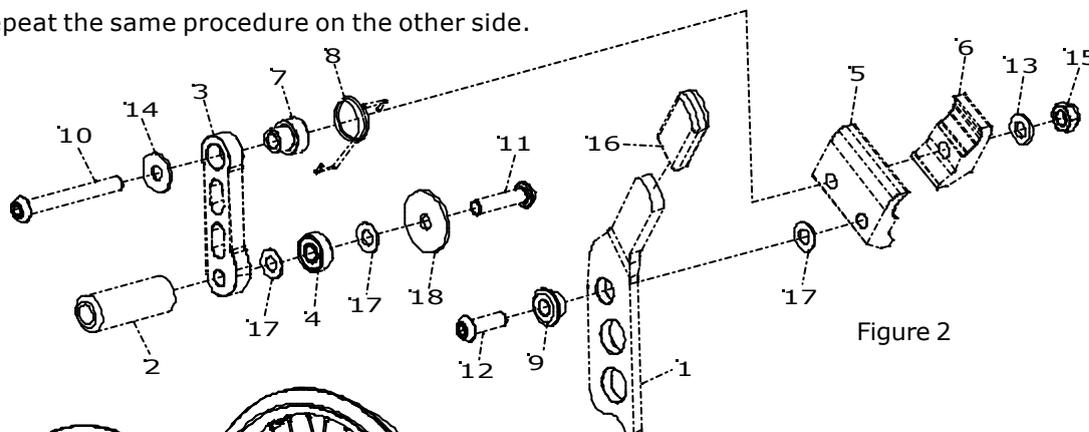
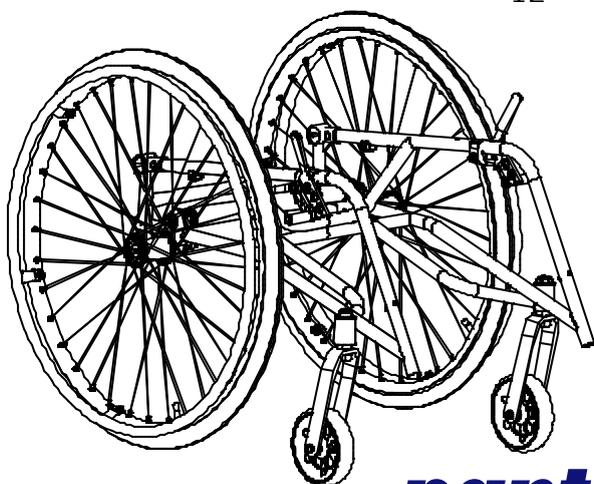

Figure 2
Figure 3
2. Loosen the bolt slightly with the socket head (10) (figure 2) to enable you to place the brake clamps (5 and 6) round the seat tubing on the wheelchair. (See figure 3).
3. Then try tightening the bolt (10) and move the brake handle (1) forward to brake. The brakes should be adjusted so that they sink into the tyres by around 5mm when in locked position.
- If you feel that the brakes are too loose, push the brake handle backwards and loosen the bolt (10) moving the brake back slightly. Screw in the bolt securely and check that you are satisfied with the brakes.
- If you feel the brakes are too stiff, loosen the bolt (10) and move the brake forwards slightly. Screw in the bolt securely and check that you are satisfied with the brakes.
4. Make sure that the brake locking block (2) is positioned straight against the rear wheel for the best possible braking effect.